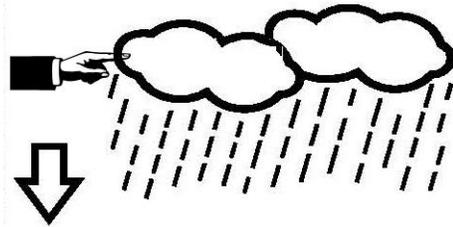

Figure 14
1. Touch the tendency once, as shown in Figure 14. The tendency will begin flashing and the  button and  button will be flashing (in the tendency section of the display).